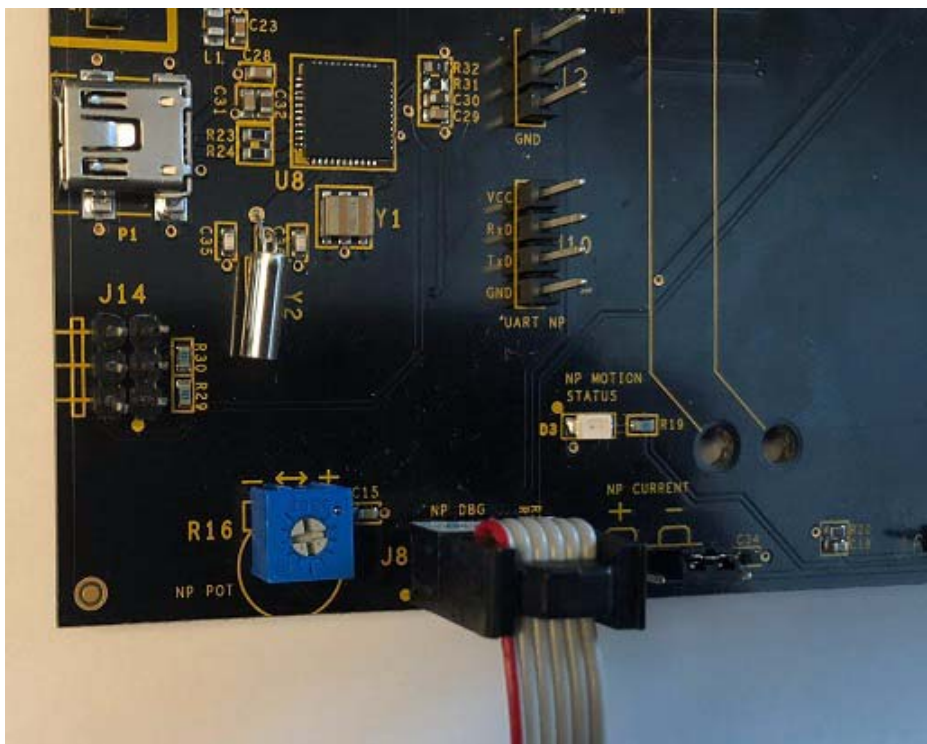

Figure 14. Connecting Other End of the Ribbon Cable to NP Debug Connector J8
4. Connect the other end of the ribbon cable to NP Debug Connector J8 on the Development Board. Ensure that Pin 1 on the ribbon cable is aligned with Pin 1 on the target connector, as shown in Figure 14.